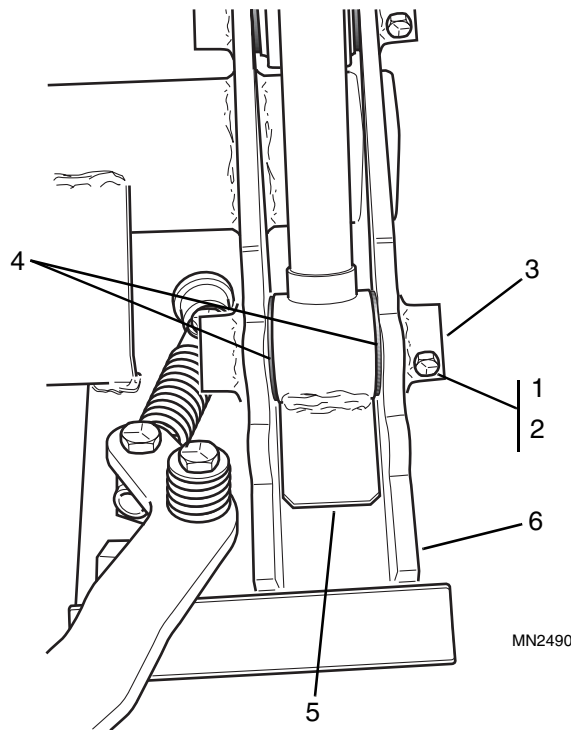

Figure 4-50 Attachment Tilt Cylinder Removal
10. Remove the capscrew (Fig. 4-50, 1), locknut (2), pin (3) and any shims (4) attaching the rod end (5) of the attachment tilt cylinder to the quick attach frame (6).
11. Drive rod end pivot pin (Fig. 4-50, 3) from the quick attach (6).